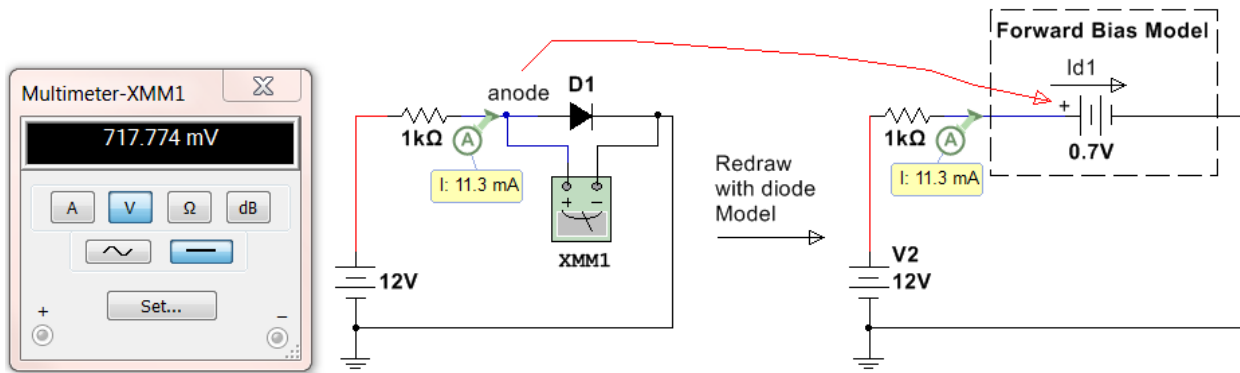

Figure 6.4: Circuit for Example 6.1
Step 2) The circuit on the right side of Figure 6.4 shows the forward bias model replacing the diode. The node where the anode was connected is connected to the + side of the battery. 0.7 V is used for the battery voltage because the problem stated it is a silicone diode. Next, calculate the current, I_{D1} .
- $I_{D1} = I_R = \Delta V/R = (12 - 0.7)/1k\Omega = \mathbf{11.3\ mA}$ (This is verified in Multisim in Figure 6.4)
Step 2) The circuit on the right side of Figure 6.4 shows the reverse bias model. **Notice the + side of the Multimeter that is measuring V_{D2} is on the same node as the anode was connected.** To solve for V_{D2} there are two possible methods.